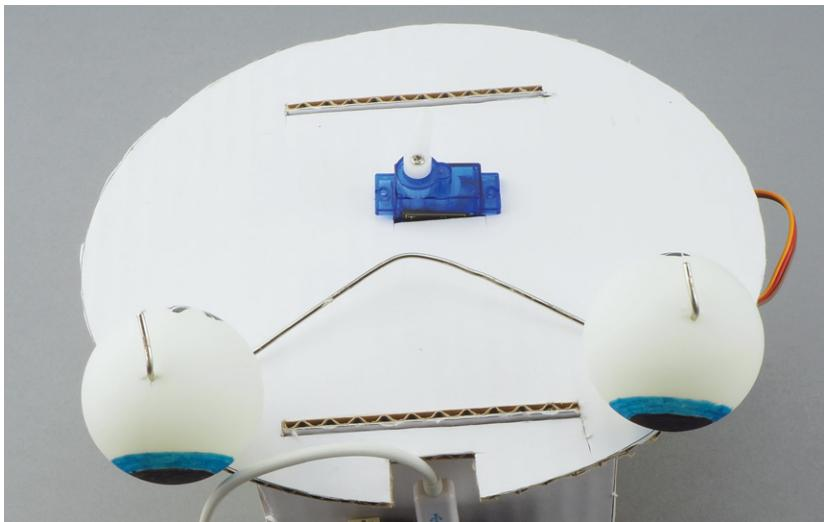

Figure 6-17: Connecting the eyeballs
- Now attach the eyeballs and wire frame to the top card, as shown in Figure 6-17. Adjust the bend in the middle of the wire frame so that the eyeballs are centered over the two circles drawn on the top card. Then use adhesive tape to hold the wire in place. Give the eyeballs a little spin to make sure they can turn freely.